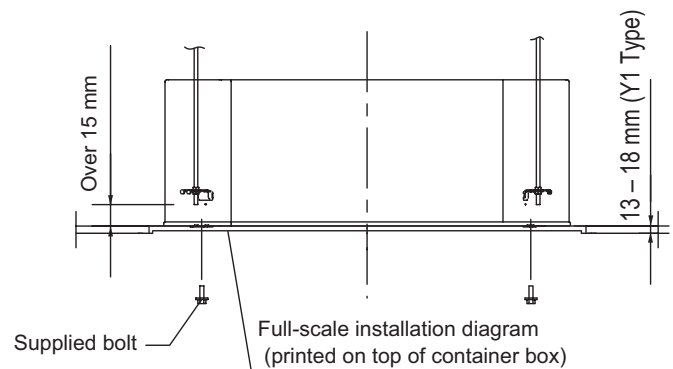

Fig. 2-44
- (1) When placing the unit inside the ceiling, determine the pitch of the suspension bolts using the supplied full-scale installation diagram. (Fig. 2-44) Tubing and wiring must be laid inside the ceiling when suspending the unit. If the ceiling is already constructed, lay the tubing and wiring into position for connection to the unit before placing the unit inside the ceiling.
- (2) The length of suspension bolts must be appropriate for a distance between the bottom of the bolt and the bottom of the unit of more than 15 mm. (Fig. 2-44)